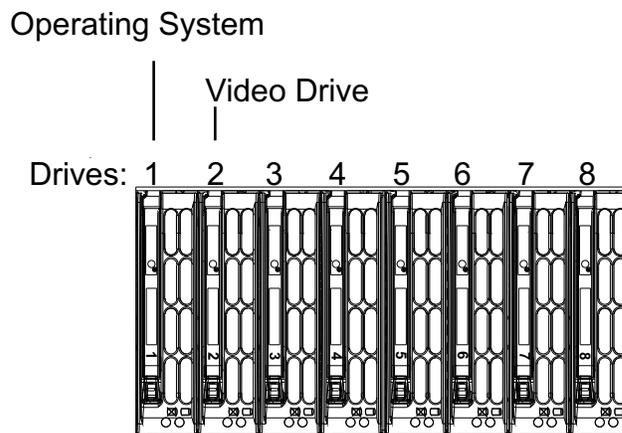

Figure 4-6. Front Panel: System Drives
4. Screws may be used to secure the front of the chassis to the rack **Figure 4.6**